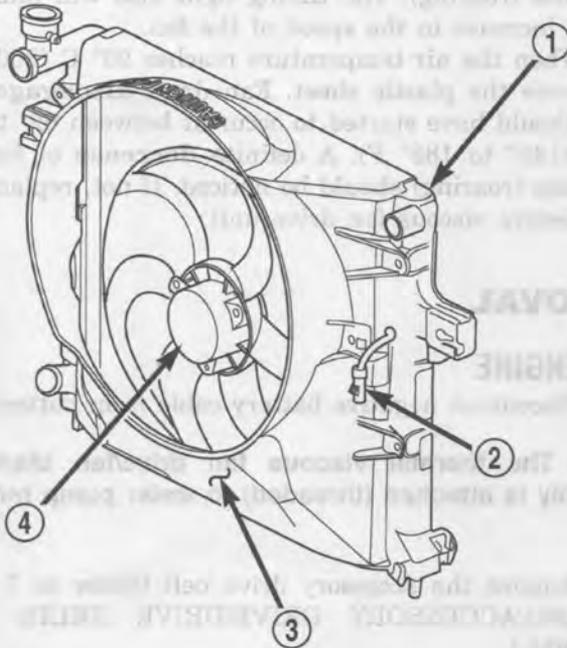

Fig. 33 Radiator Cooling Fan - Typical
- (1) Gently lay fan into shroud.
- (2) Disconnect the electrical connector for the electric fan, then disconnect connector from shroud.
- (3) Remove the two fan shroud mounting bolts connecting the fan shroud to the radiator (Fig. 33).